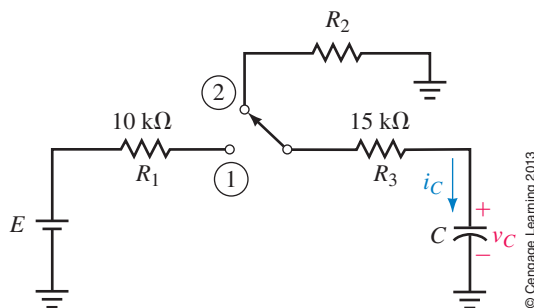
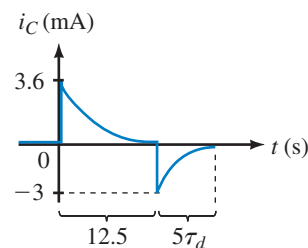

FIGURE 11-54
FIGURE 11-58
27. For Figure 11-54, let $E = 200$ V, $R_2 = 1$ k Ω , and $C = 0.5$ μ F. After the capacitor has fully charged in position 1, the switch is moved to position 2.
28. For Figure 11-54, C is fully charged before the switch is moved to discharge. Current just after it is moved is $i_C = -4$ mA and C takes 20 ms to discharge. If $E = 80$ V, what are R_2 and C ?
32. Consider again Figure 11-54. Suppose $E = 80$ V, $R_2 = 25$ k Ω , and $C = 0.5$ μ F:
33. For the circuit of Figure 11-54, the capacitor is initially uncharged. The switch is first moved to charge, then to discharge, yielding the current shown in Figure 11-58. The capacitor fully charges in 12.5 s. Determine E , R_2 , and C .